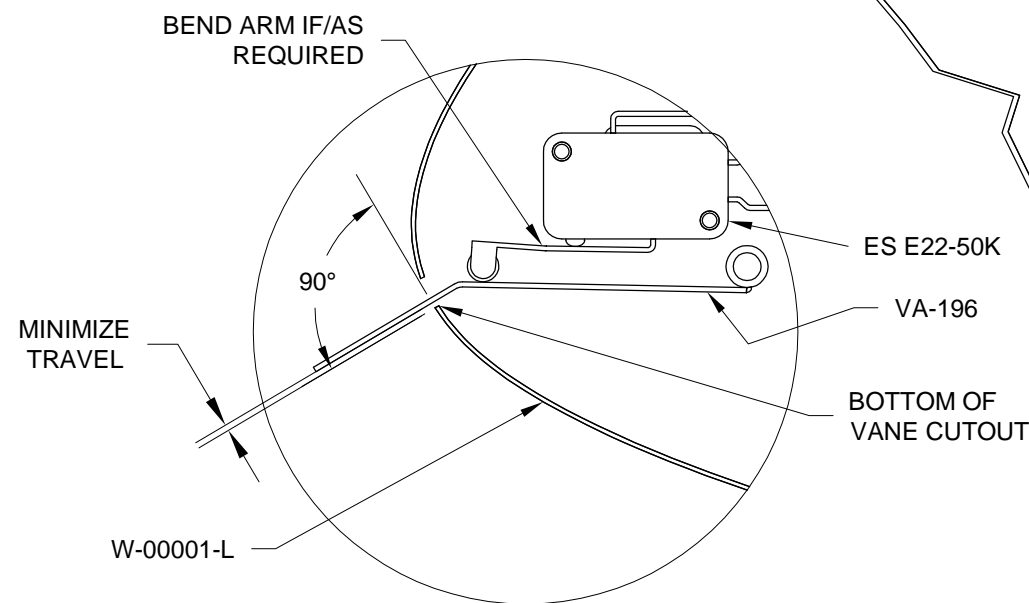

FIGURE 3: ACTIVATING THE MICRO SWITCH
Step 6: Double check that the VA-196 Stall Warning Vane in the at rest position is perpendicular to the surface of the wing skin. If the stall warning vane is not perpendicular, remove the stall warning subassembly and bend the stall warning vane as required. See Figure 3.